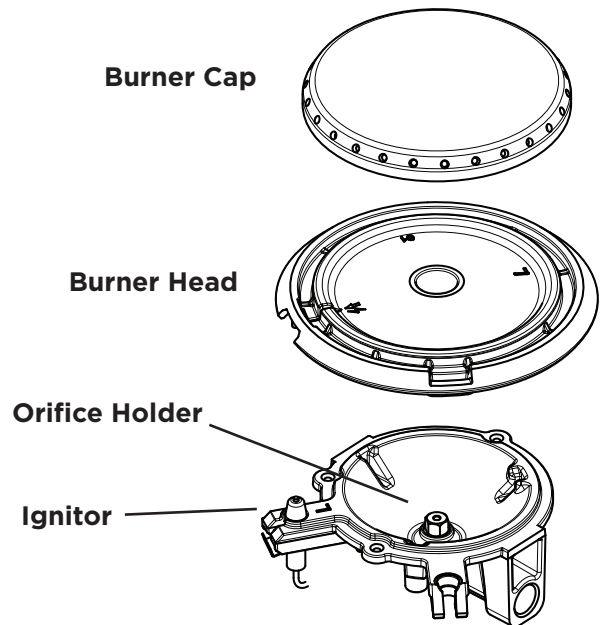

Figure 12: Burner cap, burner head, ignitor, and orifice
1. Remove the burner cap and the burner head (see Figure 12). Clean with hot soapy water and dry thoroughly